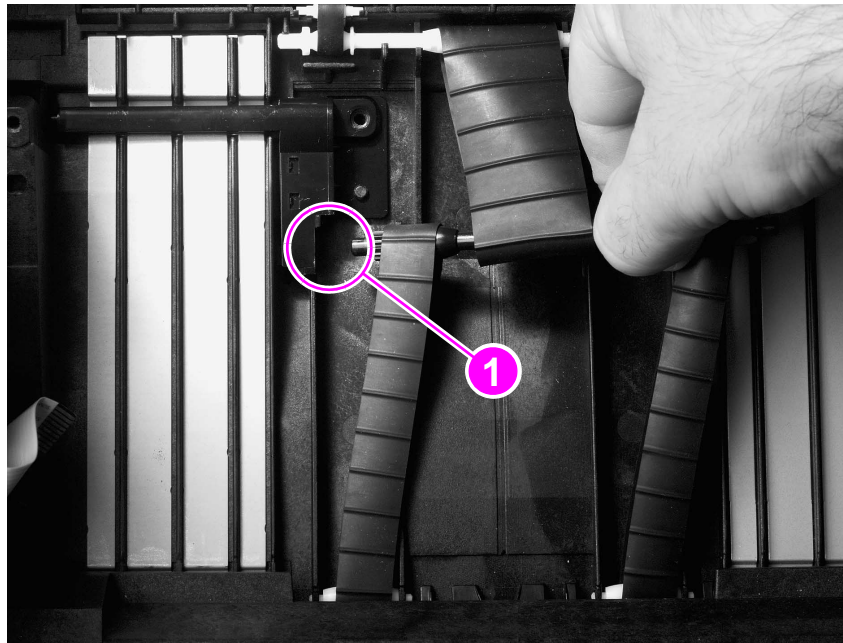

Figure 103. Remove center roller
- Step 7 Verify the correct installation of the transport belts and rollers, using figure 103.